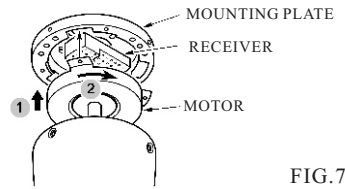

FIG.7
4. Lift the fan body up and turn the motor into the mounting plate.(see fig.7)